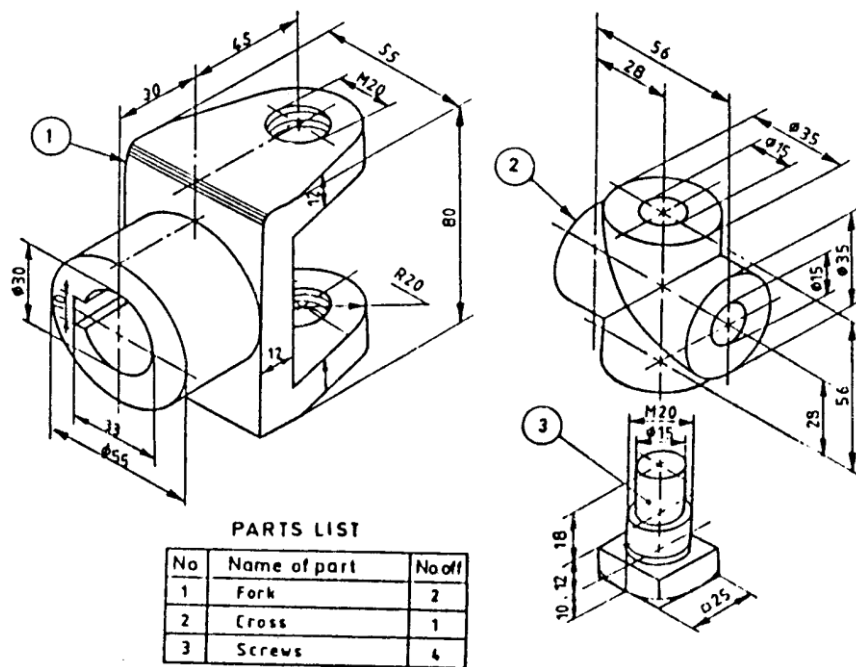

FIGURE T9.2: UNIVERSAL COUPLING
2. 2. *FIGURE T9.2 SHOWS THE DETAIL DRAWING OF A UNIVERSAL COUPLING FOR CONNECTING TWO SHAFTS. ASSEMBLE THE PARTS AND DRAW THE SECTIONAL FRONT VIEW AND THE TOP VIEW.*